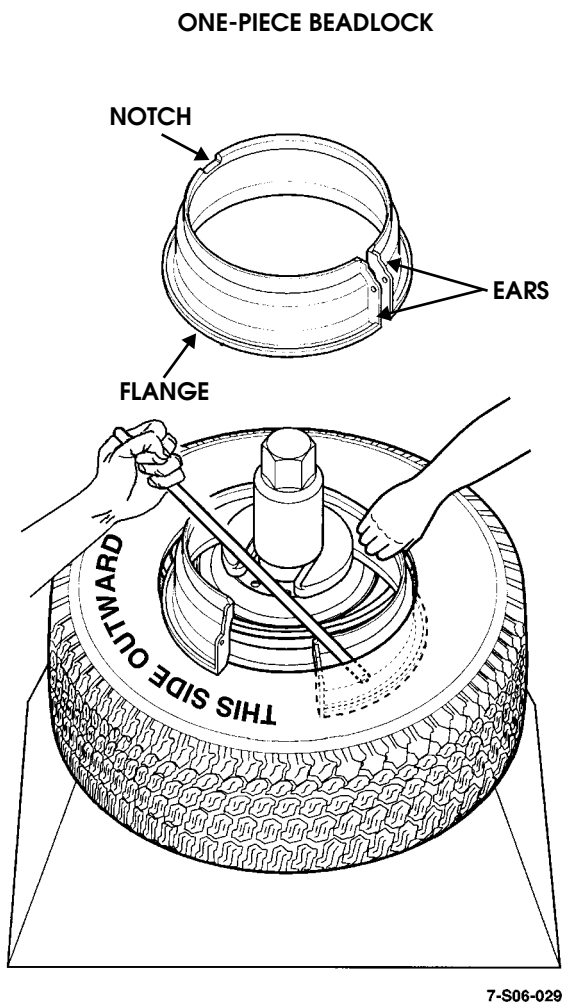

Figure 6-24: Beadlock Insertion
2. Position beadlock end between wheel and outer tire bead. Lubricate tire bead and beadlock and use a pry bar for ease of installation. Spread beadlock apart and insert beadlock, flanged side down, into and around inside of tire with a corkscrew motion (Figure 6-24).